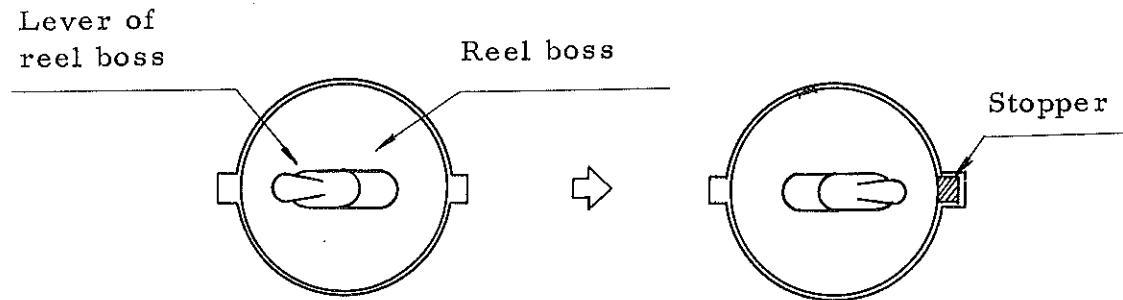

Fig. 4.2.5 Setting the Reel
- (5) Be sure that the protuberance of the reel boss is inside.
- (6) If the protuberance is out, turn the lever of the reel boss in the opposite direction.
- (7) Make one of the two grooves of the reel meet the position of the protuberance to set the reel on the reel boss.
- (8) Turn down the lever of the reel boss in the opposite direction to fit the protuberance into the groove of the reel (See Fig. 4.2.5).
- (9) Set the tape reader switch to RELEASE.